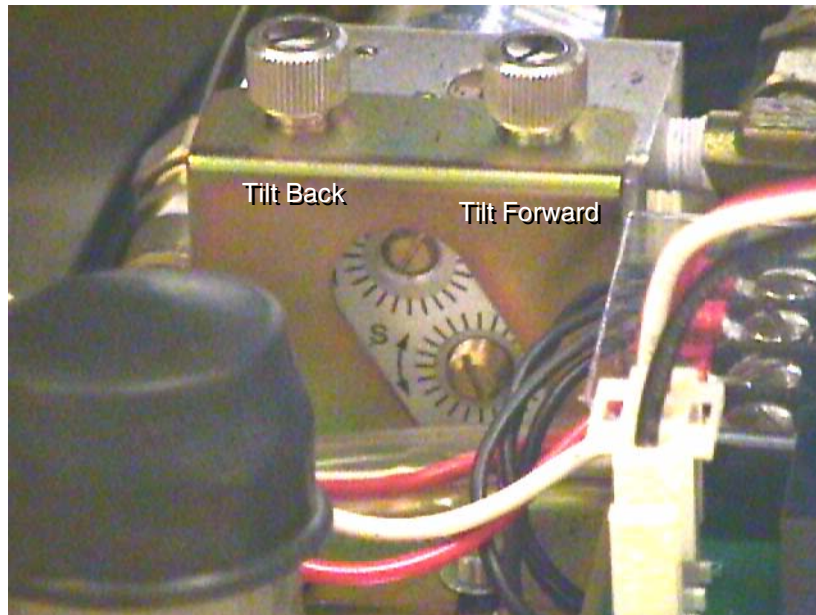

Figure 6-1 Tilt Speed Adjustment Screws
- 3.) From zero (0) degrees tilt, press and hold the tilt forward button,  until gantry display reads S25. Observe tilt speed using time piece.
- 5.) Adjust forward speed control valve for one (1) degree per second motion. See Figure 6-1.
- 6.) Adjust backward speed control valve for one (1) degree per second motion. See Figure 6-1.